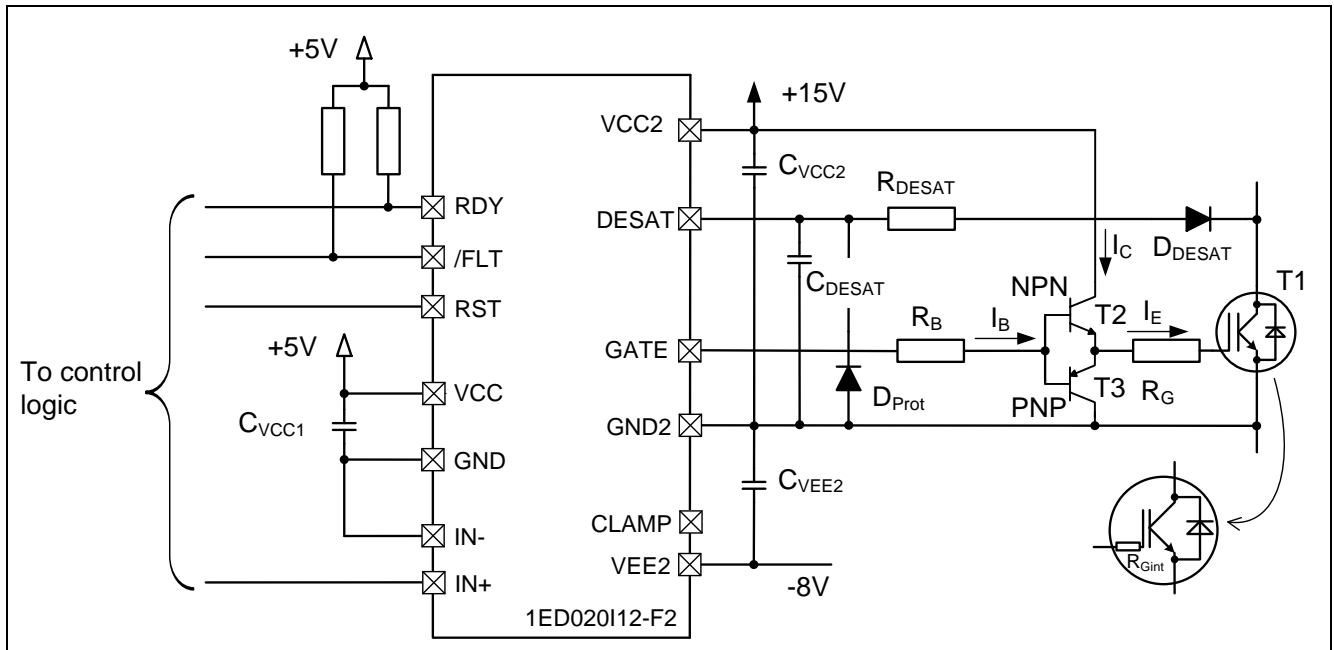
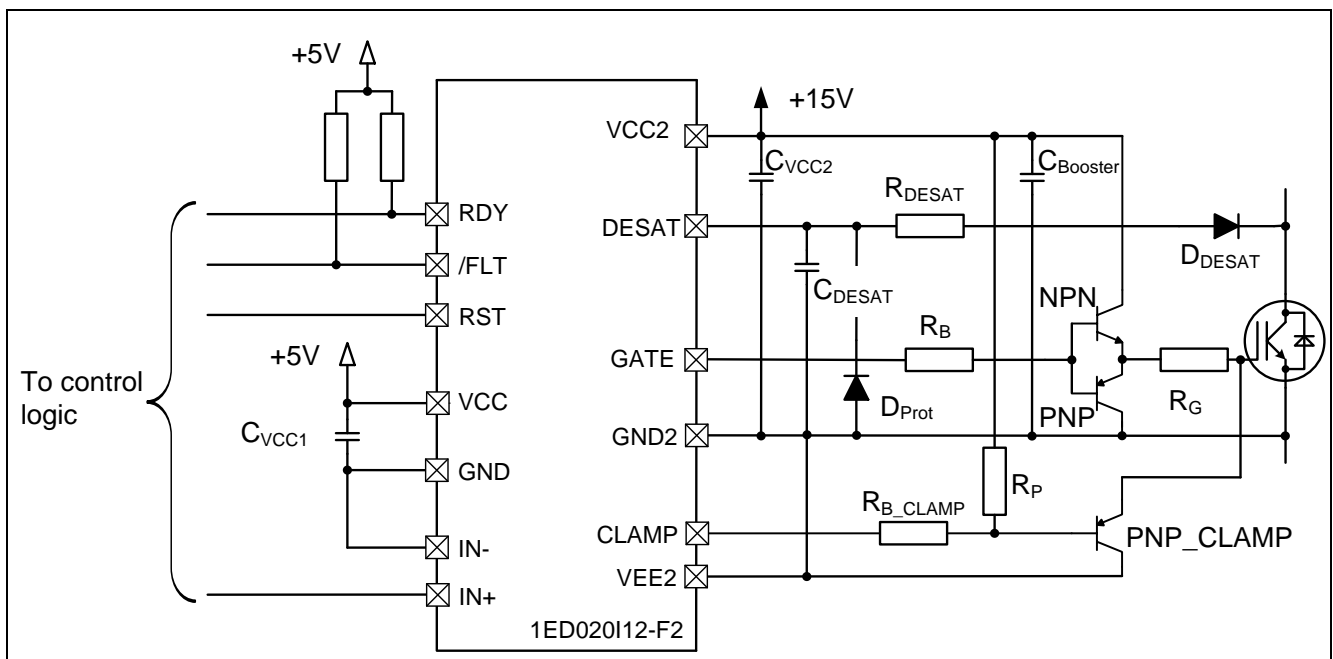

Figure 1 Example circuit for driving large IGBT modules (bipolar supply for driver IC)
Figure 4 Example circuit for Active Miller Clamp feature with external booster (unipolar supply for driver IC)
A typical external booster circuit can normally be built with a discrete NPN/PNP complimentary output stage which is added to the output of a driver IC. One possible implementation is shown in Figure 1. The NPN and PNP booster transistors should be fast switching and have sufficient current gain to deliver the desired peak output current. The circuit, seen in Figure 1, depicts the output external booster being used with an Infineon 1ED020I12-F2 driver IC.
- 1) The Active Miller Clamp feature of the 1ED020I12-F2 family can be used together with external booster (mainly in the unipolar supply case). When the Miller current is larger than the maximum clamping capability of driver IC (2A for 1ED020I12-F2), an additional sinking path will be needed along the clamping path (between gate of IGBT and CLAMP pin). The booster transistor itself also has sinking capability, but due to the exist of the gate resistor (R_G), this sinking capability is probably not enough. Figure 4 gives an example about how to implement this additional sinking path. Here the PNP_CLAMP transistor should have the same current capability as the PNP transistor of the external booster. R_{B_CLAMP} is the base resistor for the PNP_CLAMP transistor, and the sizing is according to PNP_CLAMP transistor. R_P is used as a pull-up resistor for safety reasons, and the recommended value is in 10k Ω range (to limit the current which runs through R_P in mA range to save power).
- 2) It is possible when the bipolar supply is used that VEE2 is not at same potential as GND2 but has a negative value. In this situation, the Active Miller Clamp feature is normally not necessary. The CLAMP pin can simply be left open (as depicted in Figure 1). The resistance values of R_G and R_B need to be adjusted accordingly since the voltage step ($\Delta V_{out} = VCC2 - VEE2$) is changed.
- 3) If the bipolar supply needs to be used together with the Active Miller Clamp feature, the additional sinking path (PNP_CLAMP and R_{B_CLAMP} as shown in Figure 4) needs to be adjusted accordingly with different VEE2 value. Note that this configuration is possible since the CLAMP pin is internally reference to VEE2 for Infineon 1ED driver IC family.
- 6) The power supply and the decoupling capacitor C_{VCC2} (as seen in Figure 1) need to be adjusted according to the external booster to ensure the quality of supply voltage, which should be enough to support the three main parts of the power consumption: the driver IC, the load (IGBT) and the external booster. Alternatively a separate decoupling capacitor solution can be used to optimize the layout: C_{VCC2} closes to the driver IC and $C_{BOOSTER}$ closes to external booster transistors (as shown in Figure 4).
To better understand it thoroughly, consider the calculations in the following example with real data. Using Figure 1 as the reference design, the 1ED020I12-F2 is the driver IC. The Infineon 600A IGBT module FZ600R12KP4 is used as the load, which can be driven properly by a 10A peak current. Now for the external booster, the ZXTN2031F [3] is the NPN transistor and ZXTP2025F [4] is the PNP transistor, which are paired transistors to each other and have similar parameters.
In case the unipolar supply and the Active Miller Clamp features are used as depicted in Figure 4, the calculation needs to be adjusted by the new voltage step ($\Delta V = V_{CC2}$). The sizing procedure and the calculation of the clamping transistor PNP_CLAMP is similar to the PNP transistor of the external booster.